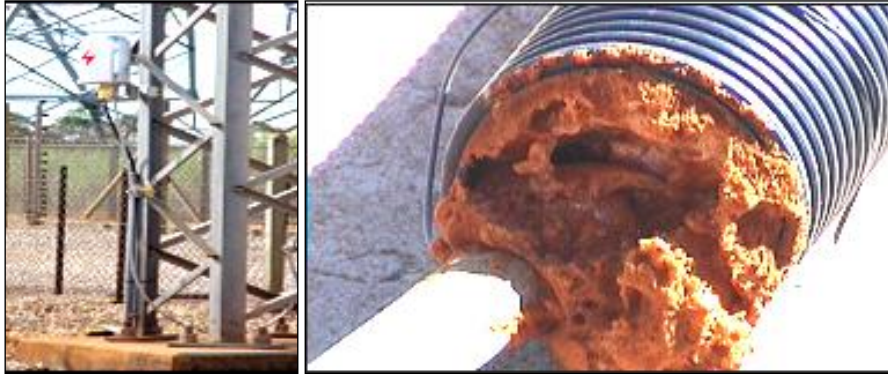

Figure 11: Joint Box and PVC pipe
- c) Ensure that duct cable / steel pipe is not damaged at ground entry (See Figure 11).